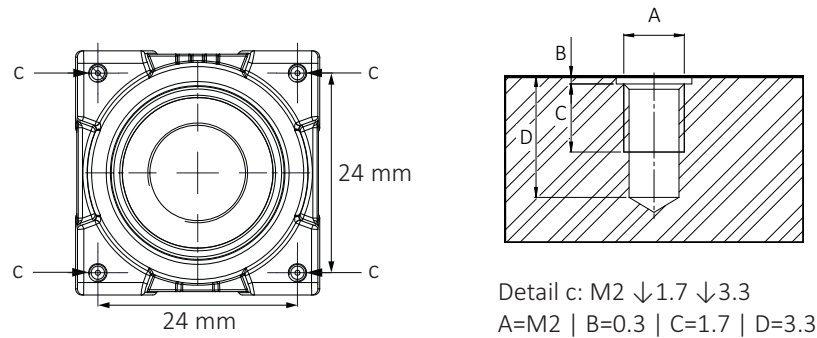

Figure 30: Camera front with mounting threads (c)
1. Mount the camera to the base using suitable M2 screws at 0.17 Nm maximum torque for a thread engagement (C) of 1.7 mm between screws and mounting threads, see Figure 30. For technical drawings, see Dimensions and mass on page 82.